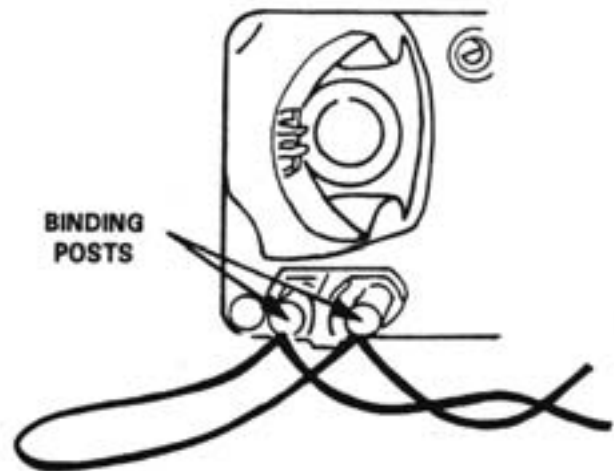

Figure 6-74. Connection of the Wire Loop.
- Connect the two-wire tactical telephone at position A to the wire loop. First, strip 1/2 inch of insulation off the two wires at each end of the wire loop. Then, connect one of the wires from each end of the wire loop to one binding post of this telephone and the other wire from each end of the loop to the other binding post. See figure 6-74.